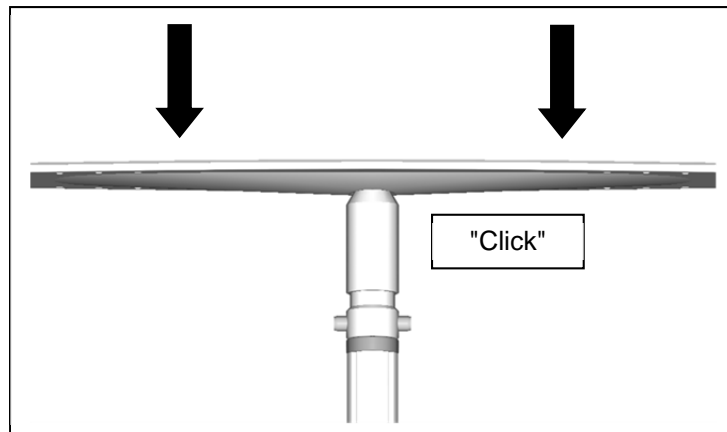

Figure 16
8. Place the top plate into the top of the post, press firmly and evenly downward until the top plate "clicks" into place (see Figure 16).